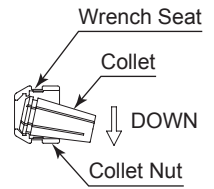
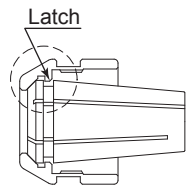

Fig. 5
Fig. 7
- ② The collet and collet nut are secured by a groove in the collet and a flange in the collet nut. To remove the collet hold the collet nut in one hand and push diagonally down on the collet. The collet should be released (Fig. 5).
Press the collet in the collet nut by positioning the collet in the collet nut and pressing down on flat surface (Fig. 5). Be sure to fully engage the latch inside the collet nut into the groove on the collets outer circumference area (Fig. 7).